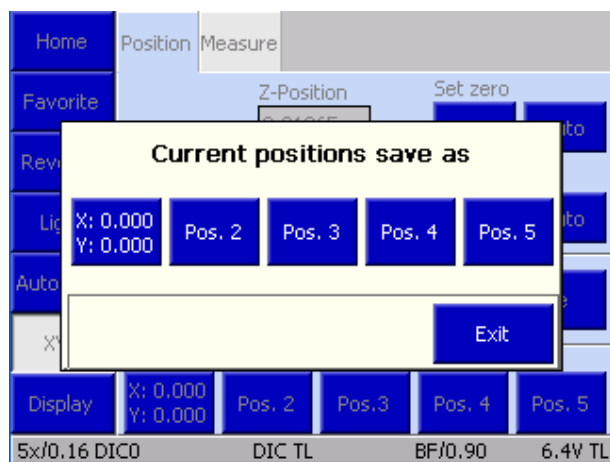

Fig. 123 Microscope -> XYZ -> Save Position
- Press the **Save Position** button. The **Current positions save as** pop-up window opens (Fig. 123).